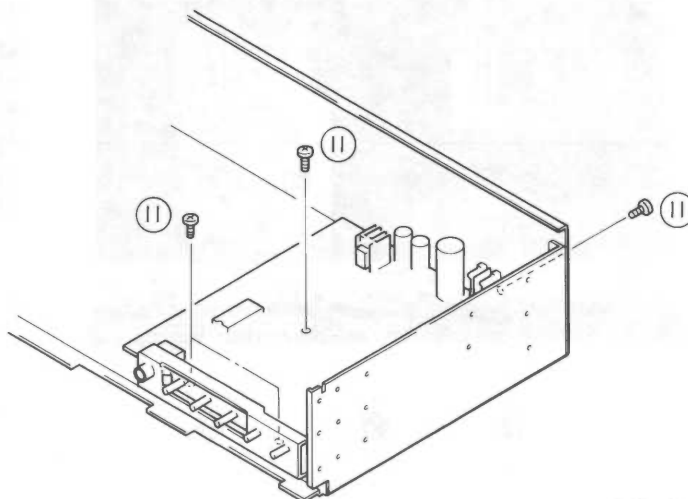

Fig. 8
- Remove 4 screw (⑪) in fig 8.